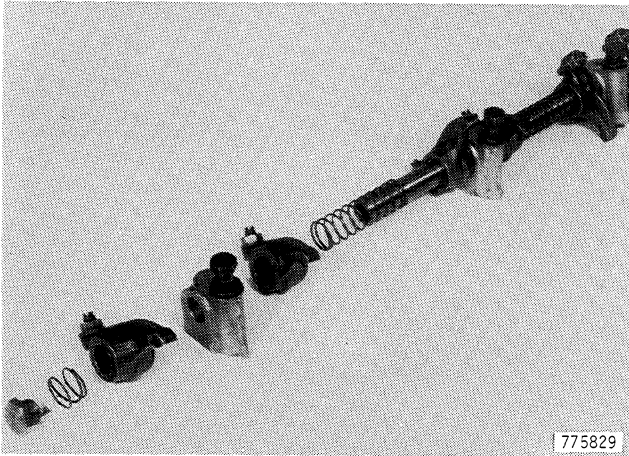

Figure 85
2. Slide parts off the shaft. Put the parts on a bench in the order of removal, Figure 85. Red bracket is retained by a set screw.